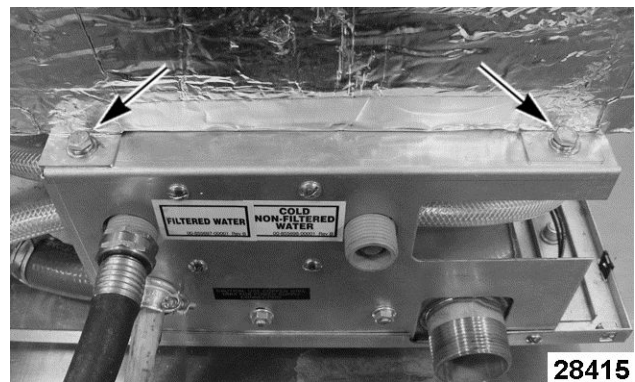

Fig. 89
18. Remove bolts Fig. 89 (qty. 3) securing steam generator tank to the machine frame (3rd bolt - opposite side of tank). Remove tank from machine.